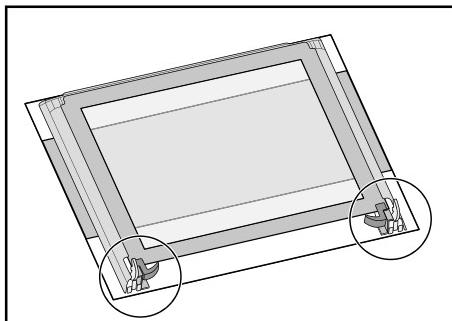

Fig. 12
- 6)** place the door on a stable surface (Fig. 12) protected by a soft cloth to prevent the handle surface from being damaged;